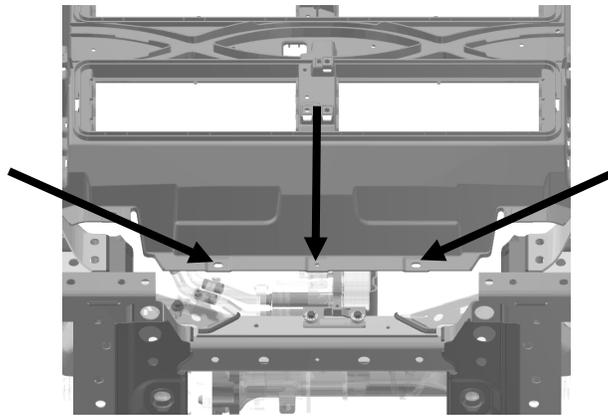

Figure 2
- B. Using a 10mm socket remove the (3) bottom center bolts from the front module carrier (Fig 2).